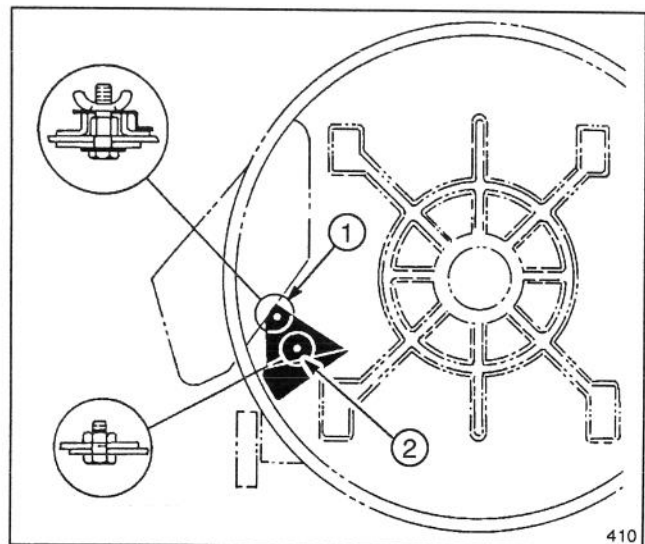

Figure 6
2. Position the kicker as shown in Figure 6, aligning holes in kicker with holes in deck.
3. Install, in sequence, the long capscrew, flat washer and locknut in first kicker hole as shown in Figure 6.